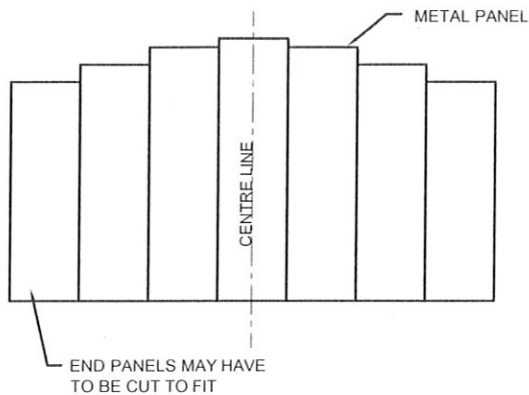

FIGURE 5
6.0 If building is gable style, gable wall panels will be longer than eave walls, sort them out from short to long. Then determine centre line of gable wall, ensuring that the longest panel will be centred as shown figure 5 and 6.